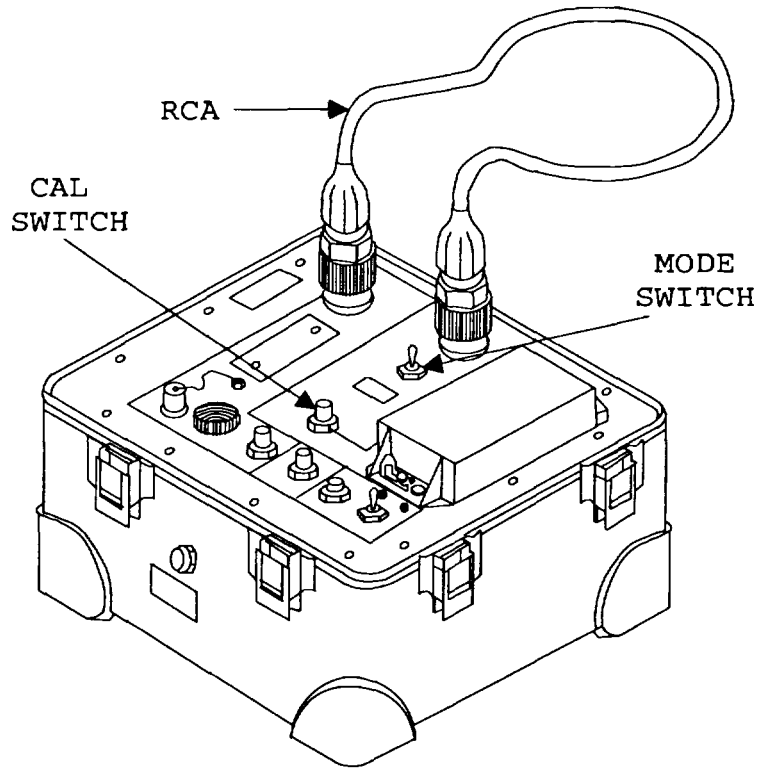

FIGURE 4-3. FTF Test Setup.
- (1) Disconnect dust cover from FTF and MCF FOBCs if necessary.
- (2) Remove RCA from case top.
- (3) Disconnect dust covers from RCA.
- (4) Connect RCA to FTF and MCF FOBCs. The test setup for the FTF test is shown in Fig. 4-3.
- (5) Set MODE switch to REL.
- (6) Press and release CAL switch. The OSM display should read  $00.0 \pm 0.5$  dBm.